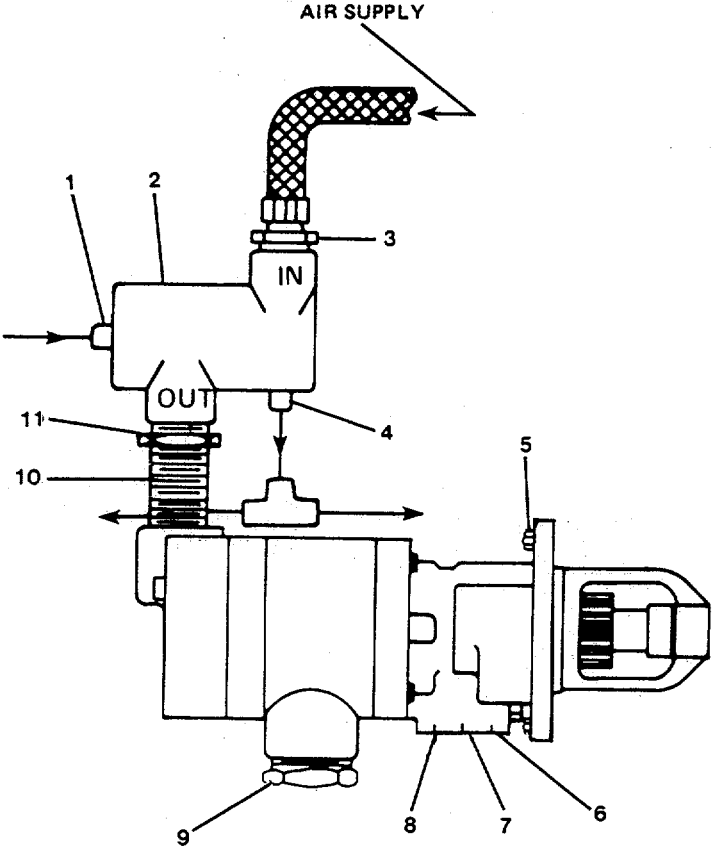

FIGURE 2-4. Engine Air Starter.
**2-24. Replace Engine Air Starter. (Figure 2-4)**